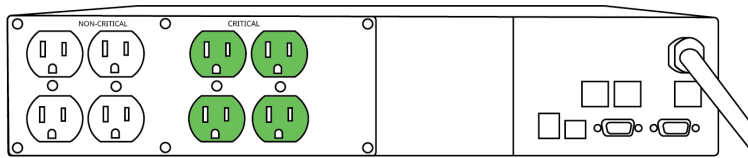

Figure 6-26. Critical ports of UPS
3. Plug the AC connector of the power brick into one of the critical ports of the UPS (Figure 6-26).